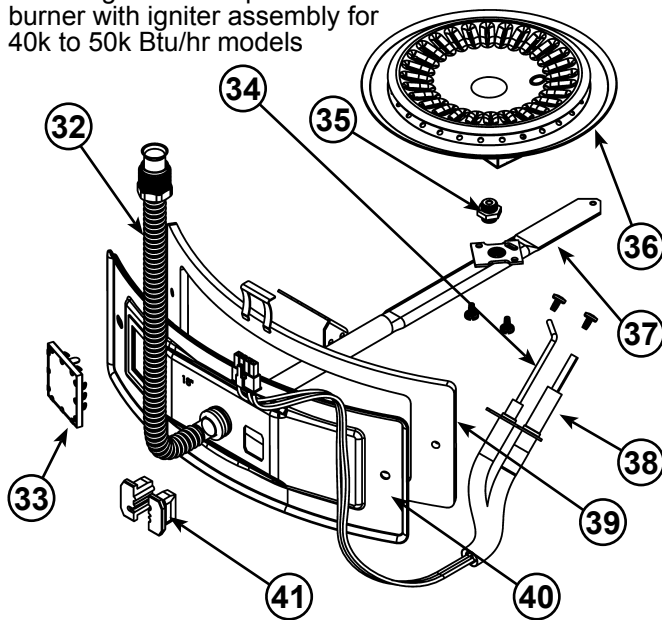
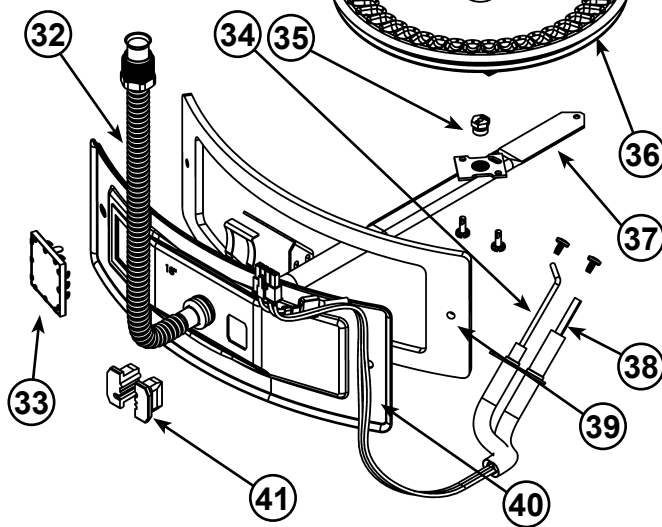
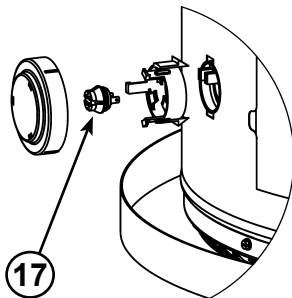
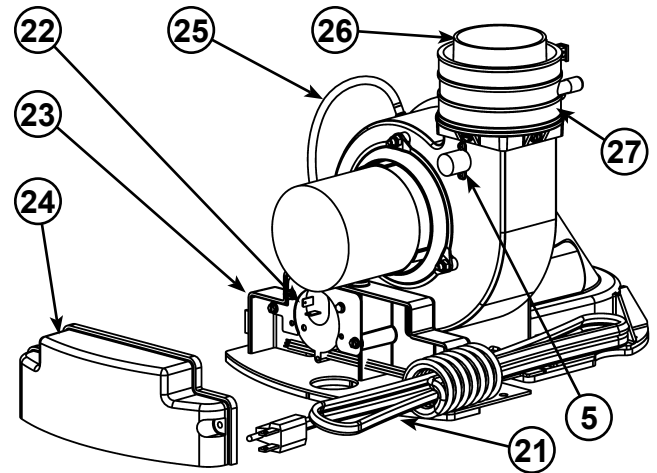

Figure 3.
Figure 4.
Figure 5.
Figure 6.
| 1. Vent Termination Elbow with Rodent Screen                             | 18. **Combo Heating System Return Inlet (Optional)   | 35. Gas Orifice (see Figure 3 & Figure 4)                     |
| 2. *Vent Pipe  | 19. Air Inlet Snorkel                                | 36. Sheet Metal Burner (see Figure 3 & Figure 4)              |
| 3. *Vent Pipe Coupling (if required)                                     | 20. **Combo Heating System Supply Outlet (Optional)  | 37. Gas Manifold (see Figure 3 & Figure 4)                    |
| 4. *Vent Pipe Elbow (long radius)  | 21. Blower with Power Cord (see also Figure 6)       | 38. Hot-Surface Igniter (see Figure 3 & Figure 4)             |
| 5. Blower High Limit Switch (see Figure 6)                               | 22. Air Switch (inside box) (see Figure 6)           | 39. Manifold Door Gasket (see Figure 3 & Figure 4)            |
| 6. T&P Valve   | 23. Junction Box (see Figure 6)                      | 40. Manifold Door (see Figure 3 & Figure 4)                   |
| 7. Cold-Water Inlet Nipple/Diptube                                       | 24. Junction Box Cover (see Figure 6)                | 41. Two Piece Grommet With Clip (see Figure 3 & Figure 4)     |
| 8. Baffle Assembly   | 25. Air Tubing (see Figure 6)                        | 42. *Inlet Water Shut-off Valve                               |
| 9. * Discharge Pipe  | 26. Rubber Coupling (see also Figure 6)              | 43. *Gas Supply*  |
| 10. Gas Control Valve/Thermostat (Honeywell)                             | 27. Gear Clamp (see also Figure 6)                   | 44. *Main Manual Gas Shut-off Valve                           |
| 14. Manifold Door Assembly (behind outer door) (see Figure 3 & Figure 4) | 31. ***Control Harness                               | 48. Rating Plate  |
| 15. *Floor Drain   | 32. Flexible Manifold Tube (see Figure 3 & Figure 4) | 49. *Thermal Expansion Tank (required for all closed systems) |
| 16. *Metal Drain Pan   | 33. Viewport (see Figure 3 & Figure 4)               |   |
| 17. Flammable Vapor Sensor (under cover) (see Figure 5)                  | 34. Flame Sensor Rod (see Figure 3 & Figure 4)       |   |
This device is located on the blower (see Figure 6, item 5) and limits the maximum temperature of the blower. If the blower temperature rises above the temperature setting, the switch opens causing the heater to shut down. The switch will auto reset once the temperature drops sufficiently.
This device, located in the junction box, monitors the air pressure produced by the blower. In the event that the exhaust venting becomes blocked or sufficiently restricted, the switch will shut the heater down (see Figure 6, item 22).